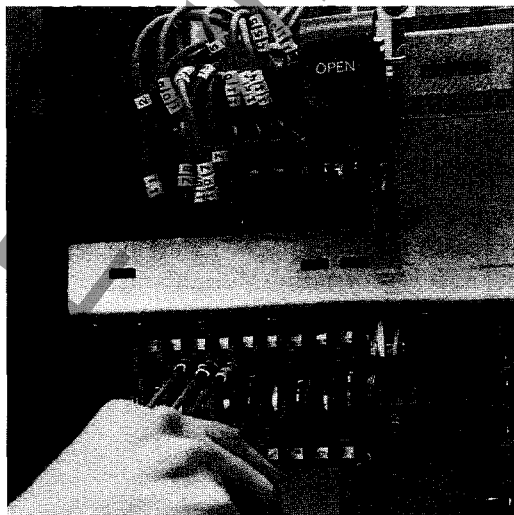

Figure 18: Auxiliary switch block cam timing
6. Insert a thin-bladed screwdriver between the metal cam and the notched ring of the contact to be adjusted; separate and release the indentation in the metal cam from the notched ring (figure 18).